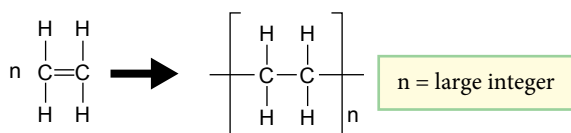

Figure 4.2 Addition polymerisation reaction to produce polyethene
- An example of the reaction that occurs is shown in Figure 4.2.